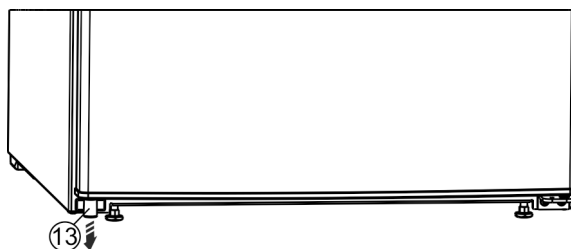

Fig. 5
- ▶ Remove the spacer Fig. 5 (13) from under the left-hand side of the door.